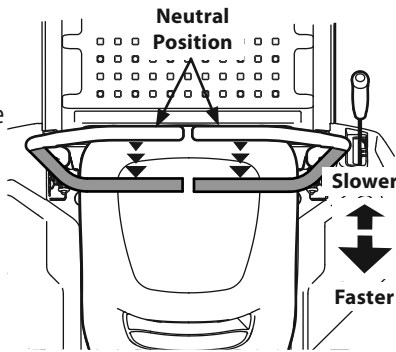

Figure 28
1. Slowly and evenly move both lapbar drive control levers rearward. The tractor will start to move in the reverse direction. See Figure 28.